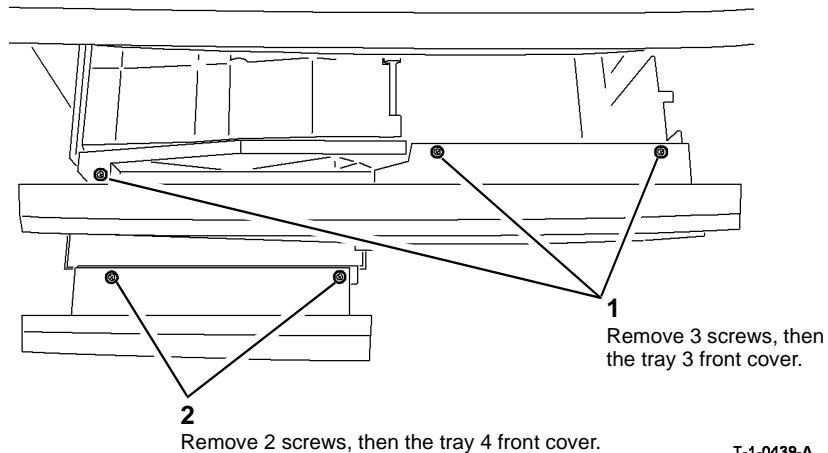

Figure 1 Tray 3 and tray 4 front covers removal
3. Remove the tray 3 and tray 4 front covers, Figure 1.